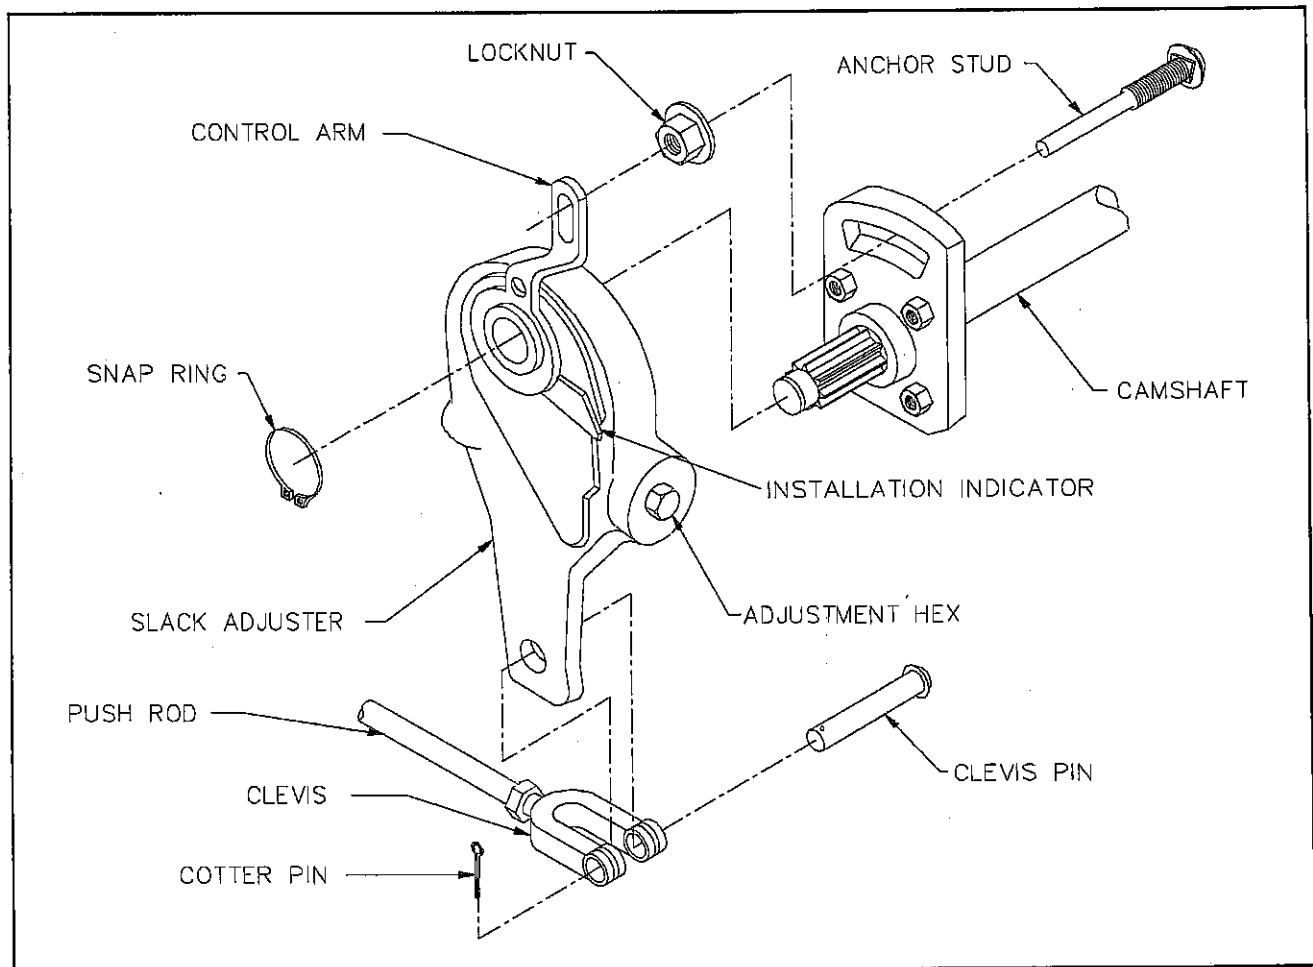

Fig. 4-4 Slack Adjuster
4. Disconnect the slack adjuster from the connecting rod by removing the clevis pin (See Figure 4-4).
4. Remount the brake chamber on the axle brackets and reconnect the air service hoses and the slack adjuster connecting rod (See Figure 4-4).
a. Operational Check (see Figure 4-4)
**b. Replacing Slack Adjuster (See Figure 4-4)**